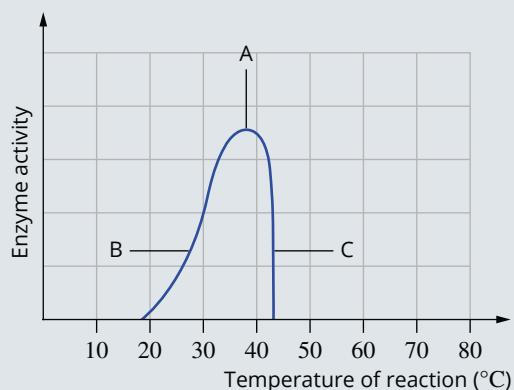

FIGURE 16.6.3 Graph of enzyme activity with temperature for a metabolic process in the body.
- 12** The graph in Figure 16.6.3 shows the effect of temperature on the enzyme activity for a metabolic reaction. For each of the parts of the graph labelled A, B and C, explain the variation in enzyme activity with temperature.